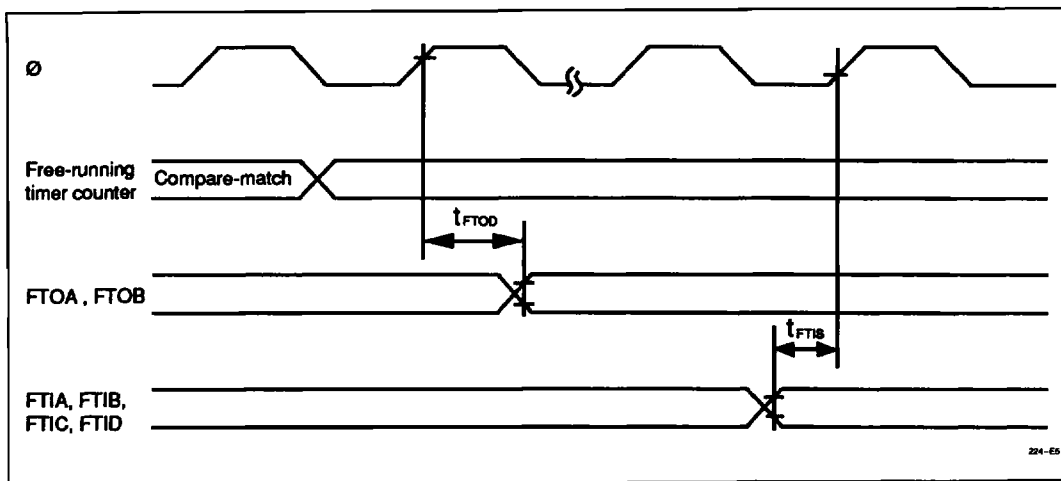

Figure 14-10. Free-Running Timer Input/Output Timing
14.3.3 16-Bit Free-Running Timer Timing	Figures 14-10 to 14-11